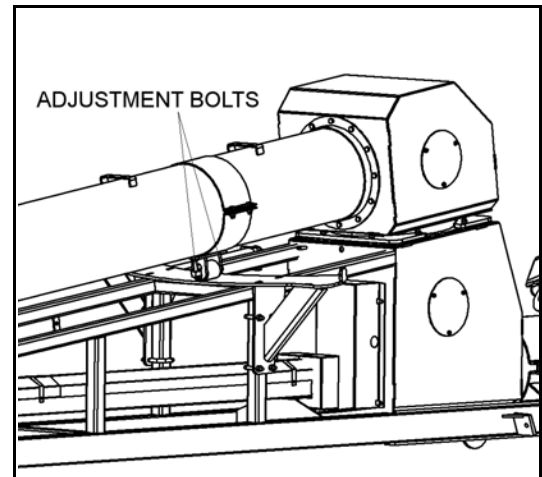

Figure 3.14
- Use a hoist to lift the lower end of flex tube slightly and adjust the position of the pivot roller with the 1/2" x 2-1/2" adjustment bolts to carry the weight of the flex tube. See Figure 3.14.